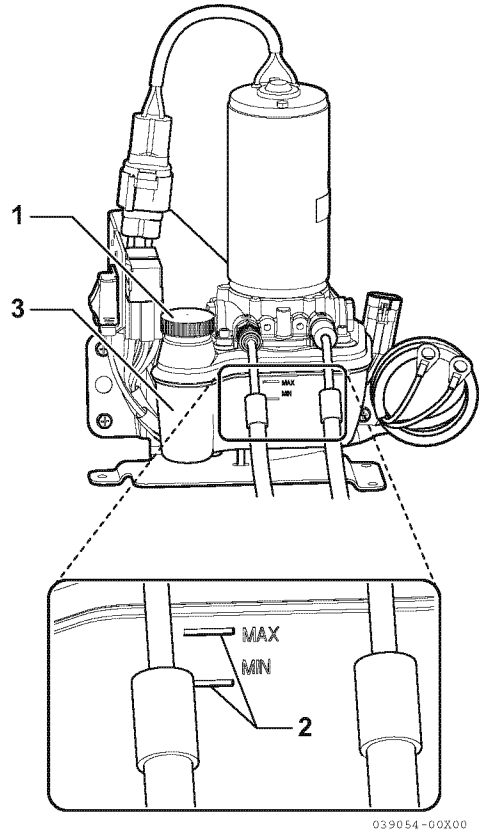

Figure 6
2. Unscrew and remove the fill cap assembly (1, **Figure 6**) from the reservoir (3, **Figure 6**) with specified fluid.
3. Add oil to bring the oil level to within the MIN and MAX lines on the reservoir (2, **Figure 6**).